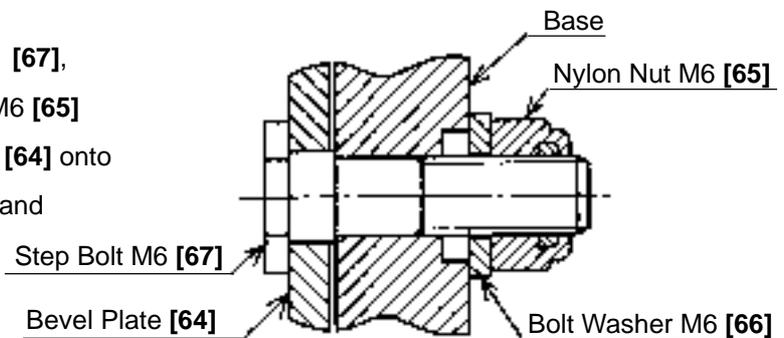

Fig. 9
- (2) Mount the Bevel Plate [64], the Step Bolt M6 [67], the Bolt Washer M6 [66] and the Nylon Nut M6 [65] as shown in Fig. 9. Then, fix the Bevel Plate [64] onto the base by tightening the Step Bolt M6 [67] and the Nylon Nut M6 [65] using a wrench.